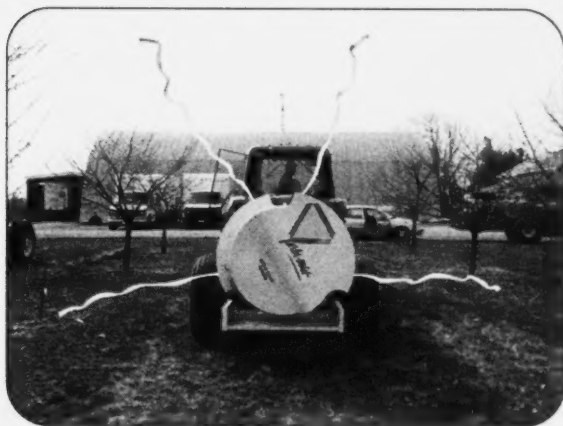

Figure 2. Ribbons show where air and spray will go.
- Tie lengths of ribbon to the nozzle bodies or deflectors and turn on the air (see Figure 2).